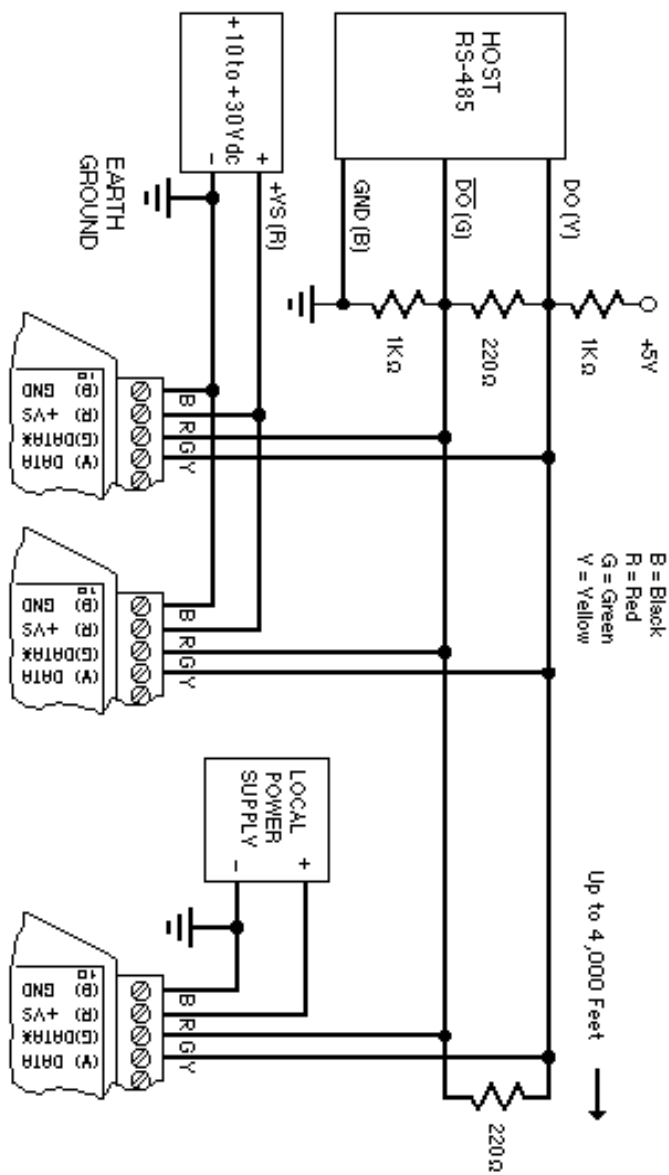

Figure 3.2 RS-485 Network.
Figure 3.2 illustrates the wiring required for multiple-module RS-485 system. Notice that every module has a direct connection to the host system. Any number of modules may be unplugged without affecting the remaining modules. Each module must be setup with a unique address and the addresses can be in any order. All RS-485 modules must be setup for no echo to avoid bus conflicts (see Setup). Also note that the connector pins on each module are labelled with notations (B), (R), (G), and (Y). This designates the colors used on standard 4-wire telephone cable:
To prevent the generation of random characters, the lines should be biased in a MARK condition as shown in Figure 3.2. The 1K resistors are used to keep the DATA line more positive than the DATA* line when none of the RS-485 transmitters are on. When enabled, the low impedance of an RS-485 driver easily overcomes the load presented by the resistors.